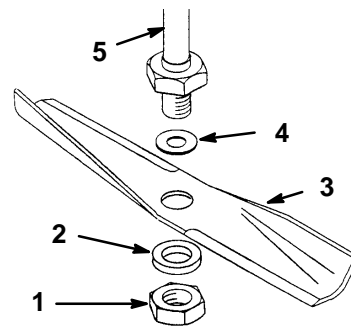

Figure 22
3. Remove the nut, flat washer, blade and washer (Fig. 22). A block of wood may be wedged between the blade and the mower to lock the blade when you are removing the bolt.